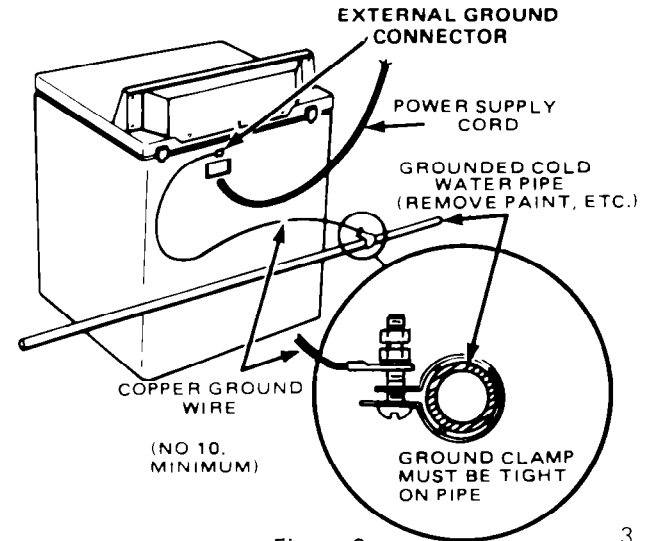

Figure 3
3. Connect the free end of the external ground wire to a grounded cold water pipe* by means of the clamp on the free end of the ground wire. Do not connect the power supply cord to electric power supply until appliance is permanently grounded. See Figure 3 page 3.